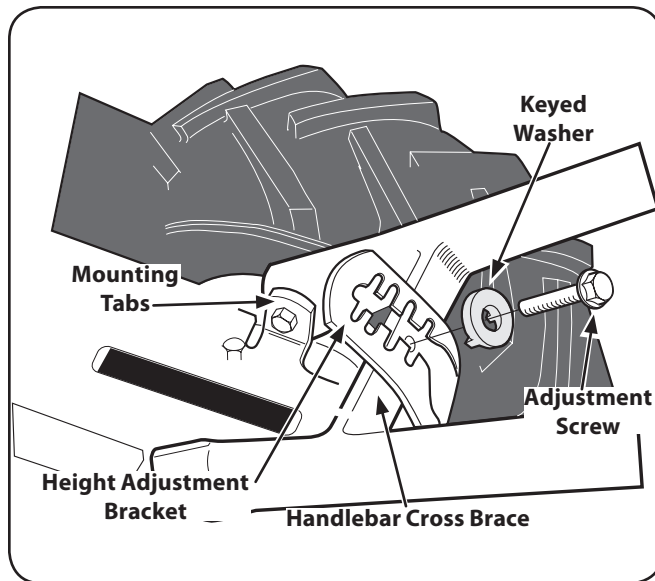

**Figure 3-1**
1. On electric start machines, remove one screw and lockwasher from the curved height adjustment bracket. Loosen the second screw and swing the bracket to one side. See Fig. 3-1.